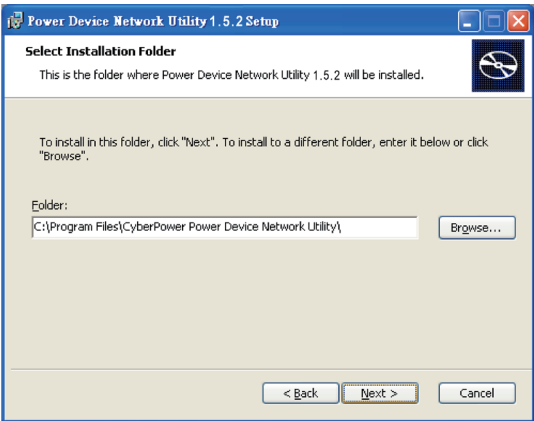

Figure 2
Step 3. Choose an installation directory. Select **Next** (Shown in Figure 2).